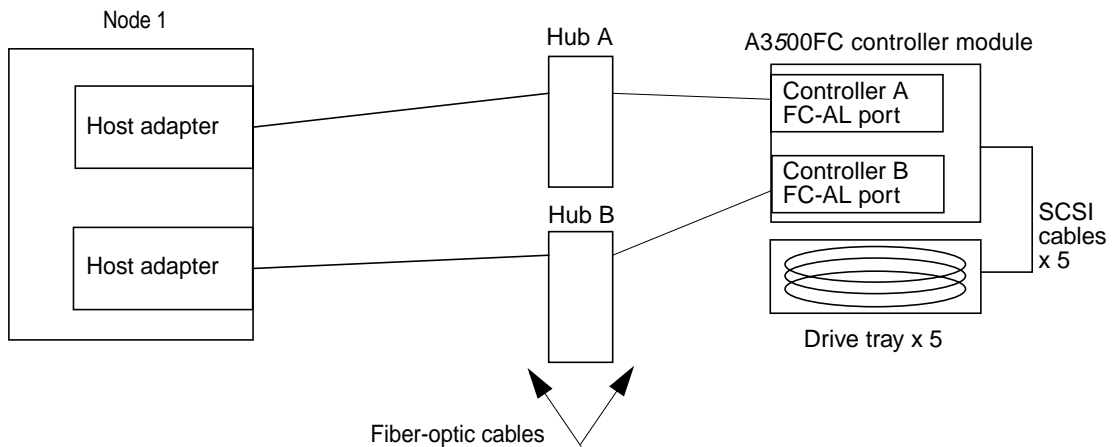

FIGURE 7-4 Sample StorEdge A3500FC Cabling (1st Node Attached)
- If you are installing a StorEdge A3500FC system, see FIGURE 7-4 for a sample StorEdge A3500FC cabling connection. The example shows the first node that is connected to a StorEdge A3500FC controller module.